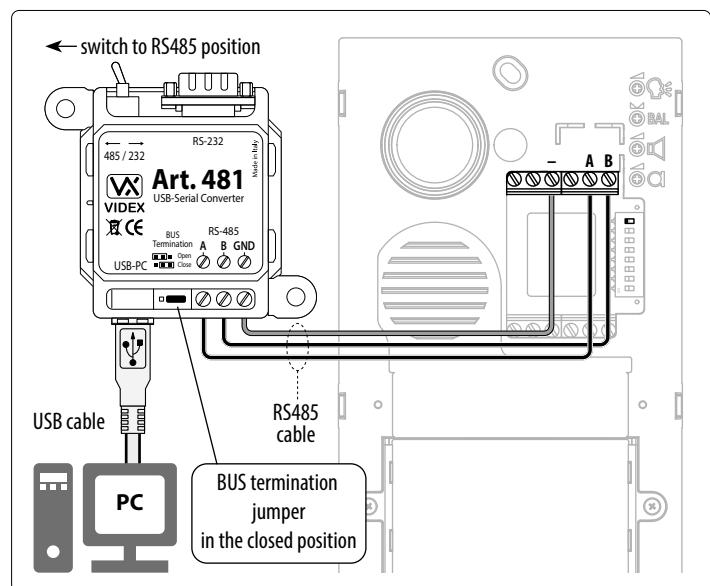

Fig. 3
1. Connect the Art. 481 USB to RS485 converters **A**, **B** and **GND** to the device (Fig. 3)